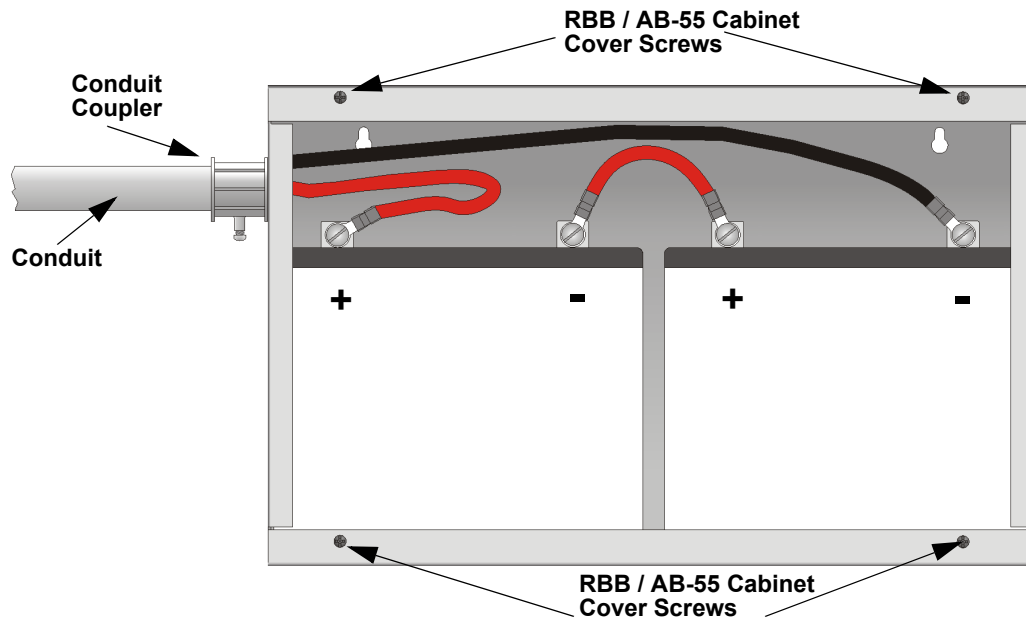

Figure 4.7 Battery Connections in the RBB or AB-55 Cabinet
3. Run extended battery cable from control panel cabinet through conduit to RBB or AB-55 cabinet. See Figure 4.7.
NOTE: Figure 4.7 is an example of how the wire connections can be routed. However, any other cabinet knock-outs (on either the main control panel or the RBB/AB-55 cabinet), that are not previously being used may be utilized to connect conduit between the two cabinets.
4. Connect battery leads to the backup battery terminals. See Figure 4.7.
5. Insert the RBB or AB-55 cover screws into the cover mounting holes. See Figure 4.7.